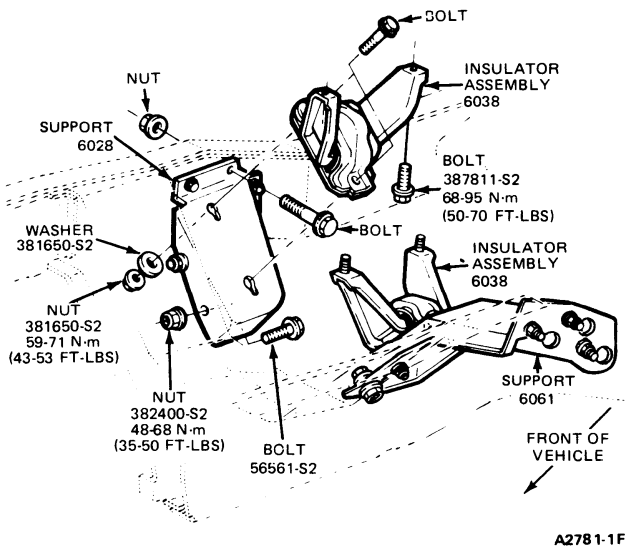

FIG. 8 Engine Front Supports—E-100—E-250 with 5.0L (302 CID) V-8 and 5.8L (351 CID) W-V-8
11. Remove the engine mount attaching bolts and nuts (Fig. 8). Remove the starter motor and disconnect the cable. On vehicles equipped with a manual transmission, remove the housing to engine bolts. On vehicles equipped with an automatic transmission, remove the converter inspection cover bolts.
1. On vehicles equipped with an automatic transmission, connect the floor crane to the engine. Raise the engine and position it into the vehicle aligning the transmission converter to the flywheel (or flex plate) and the engine dowels to the transmission. Lower the engine to the chassis brackets, and align the through-bolt holes (Fig. 8).
3. Remove insulator to engine bolts and alternator splash shield. Remove the insulators (Fig. 8).
2. Install insulators to engine using **new** bolts and tighten to specifications (Fig. 8).